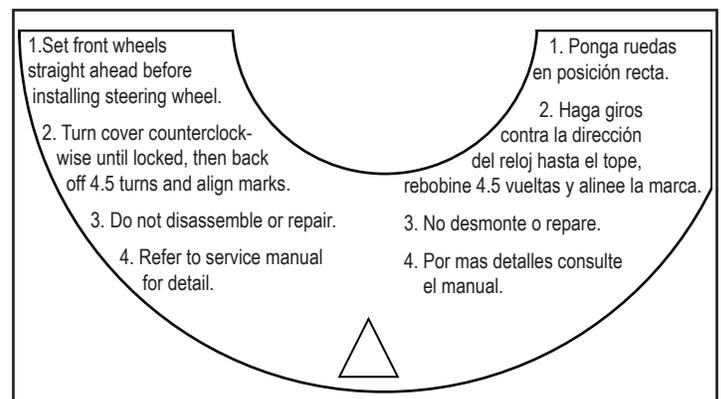

Figure 15 Clockspring Label
7. Inspect the clockspring verifying the tape that was installed in step 9 of the disassembly is intact. If the tape is broken, the clockspring must be centered before it can be placed into service. Follow the instructions on the front surface of the clockspring for resetting the assembly. *Refer to Figure 15.*